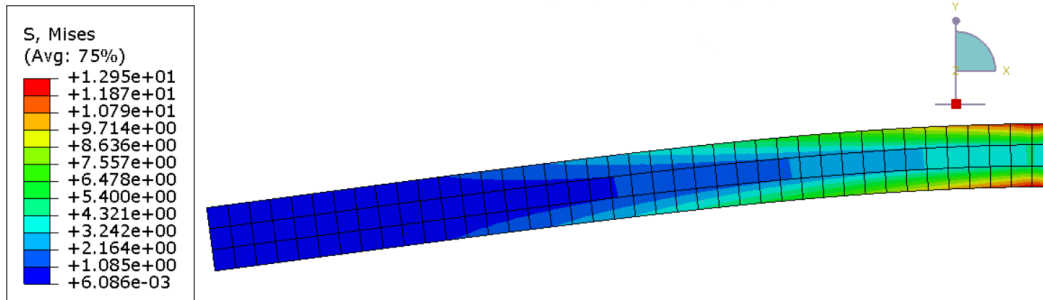

Figure 2-32 – von Mises contour plot.
2. In the toolbox, click  (or select **Plot** → **Contours** → **on Deformed Shape** from the main menu bar) to view a contour plot of the von Mises stress, as shown in Figure 2-32.